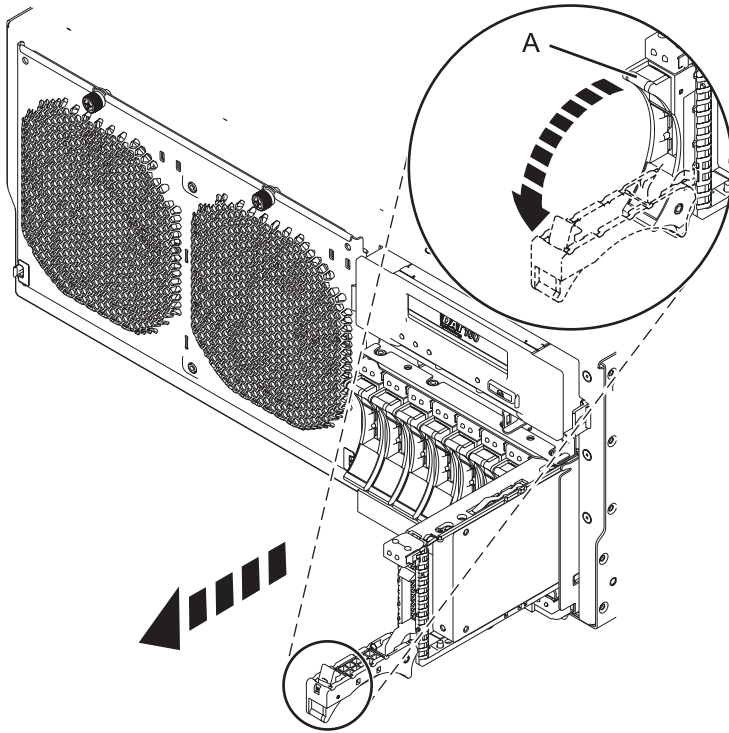

Figure 28. Removing a disk drive from the system
- Unlock the drive handle by squeezing it and pulling it out toward you, as shown in Figure 28 on page 44.